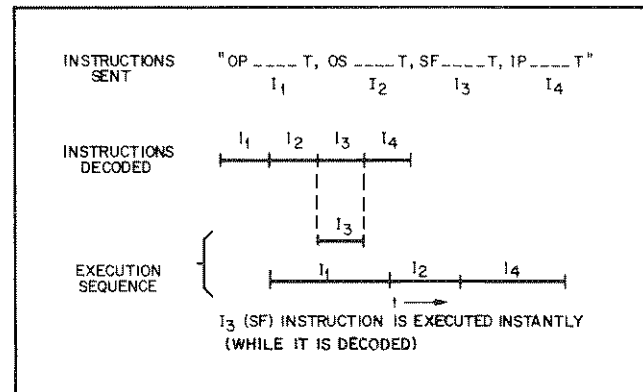

Figure 5-5. Instructions that are Executed Instantly
3. Certain instructions run instantly and are not affected by the mode of operation (see Table 5-2). Figure 5-5 illustrates an SF (which runs instantly) programmed as the third instruction in a sequence sent from the controller. The diagram illustrates that each instruction is decoded in sequence. I_1 , I_2 , and I_4 then are executed sequentially with I_2 starting when I_1 completes with I_4 starting when I_2 completes. Note however, that I_3 is unaffected by serial mode and is executed while it is decoded independently of the other instructions.